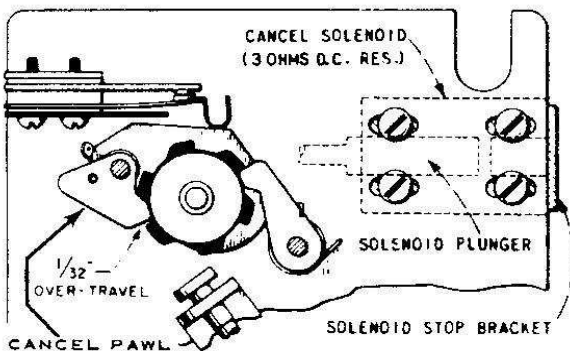

Figure 2.
2. Adjust the position of the Cancel Solenoid Stop Bracket so the Cancel Pawl over-travels the ratchet teeth approximately $1/32''$ when the solenoid plunger bottoms against the Stop. Set the Stop mounting screws firmly after adjustment. See Figure 2.